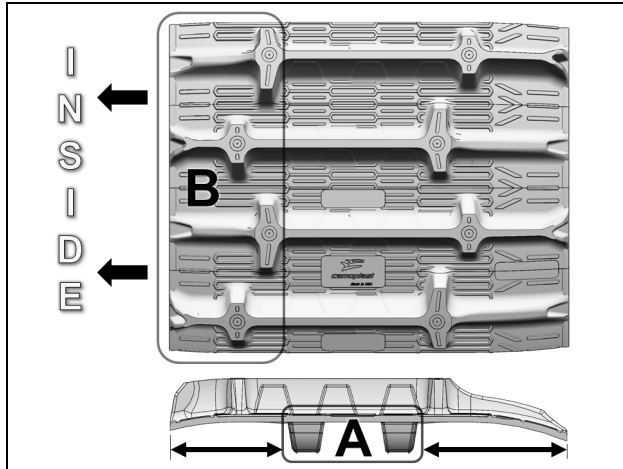

Figure 15
Front Track: Inner driving lugs (A) are not centered on the track. Make sure the narrow side (B) is installed inside the Track system. Figure 15.